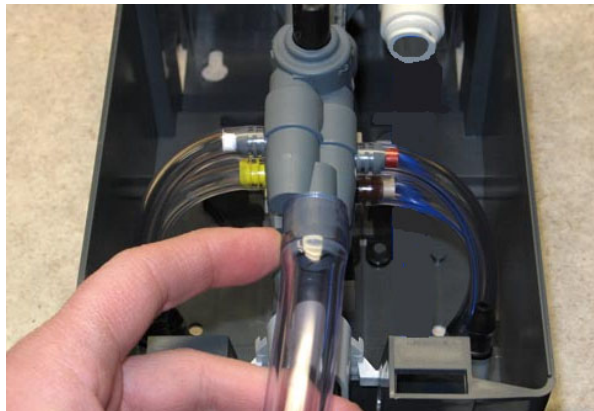

FIG. 24
23. Connect the bottle fill hose (shorter hose) to the dispenser. (Fig. 24)